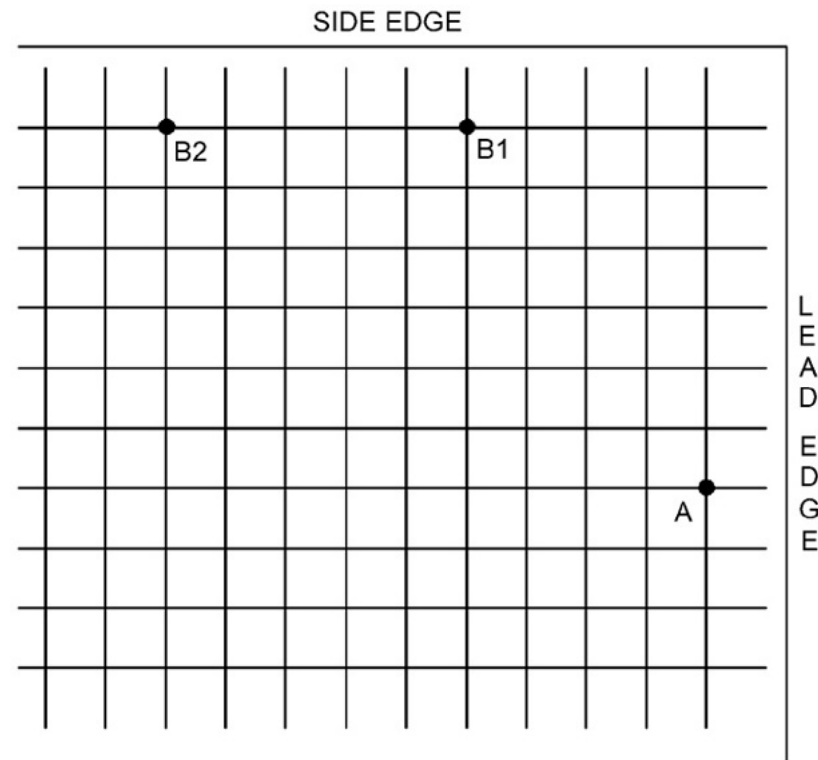

Figure 1 Test Pattern Measurement Points
9. Take the third print and measure from the lead edge to point A (as shown on **Figure 1**). Point A is at the intersection of the 7th line from the side edge and the first line from the lead edge.
4. Take the third print and measure from the lead edge to point A (as shown on Figure 1). Point A is at the intersection of the 7th line from the side edge and the first line from the lead edge.